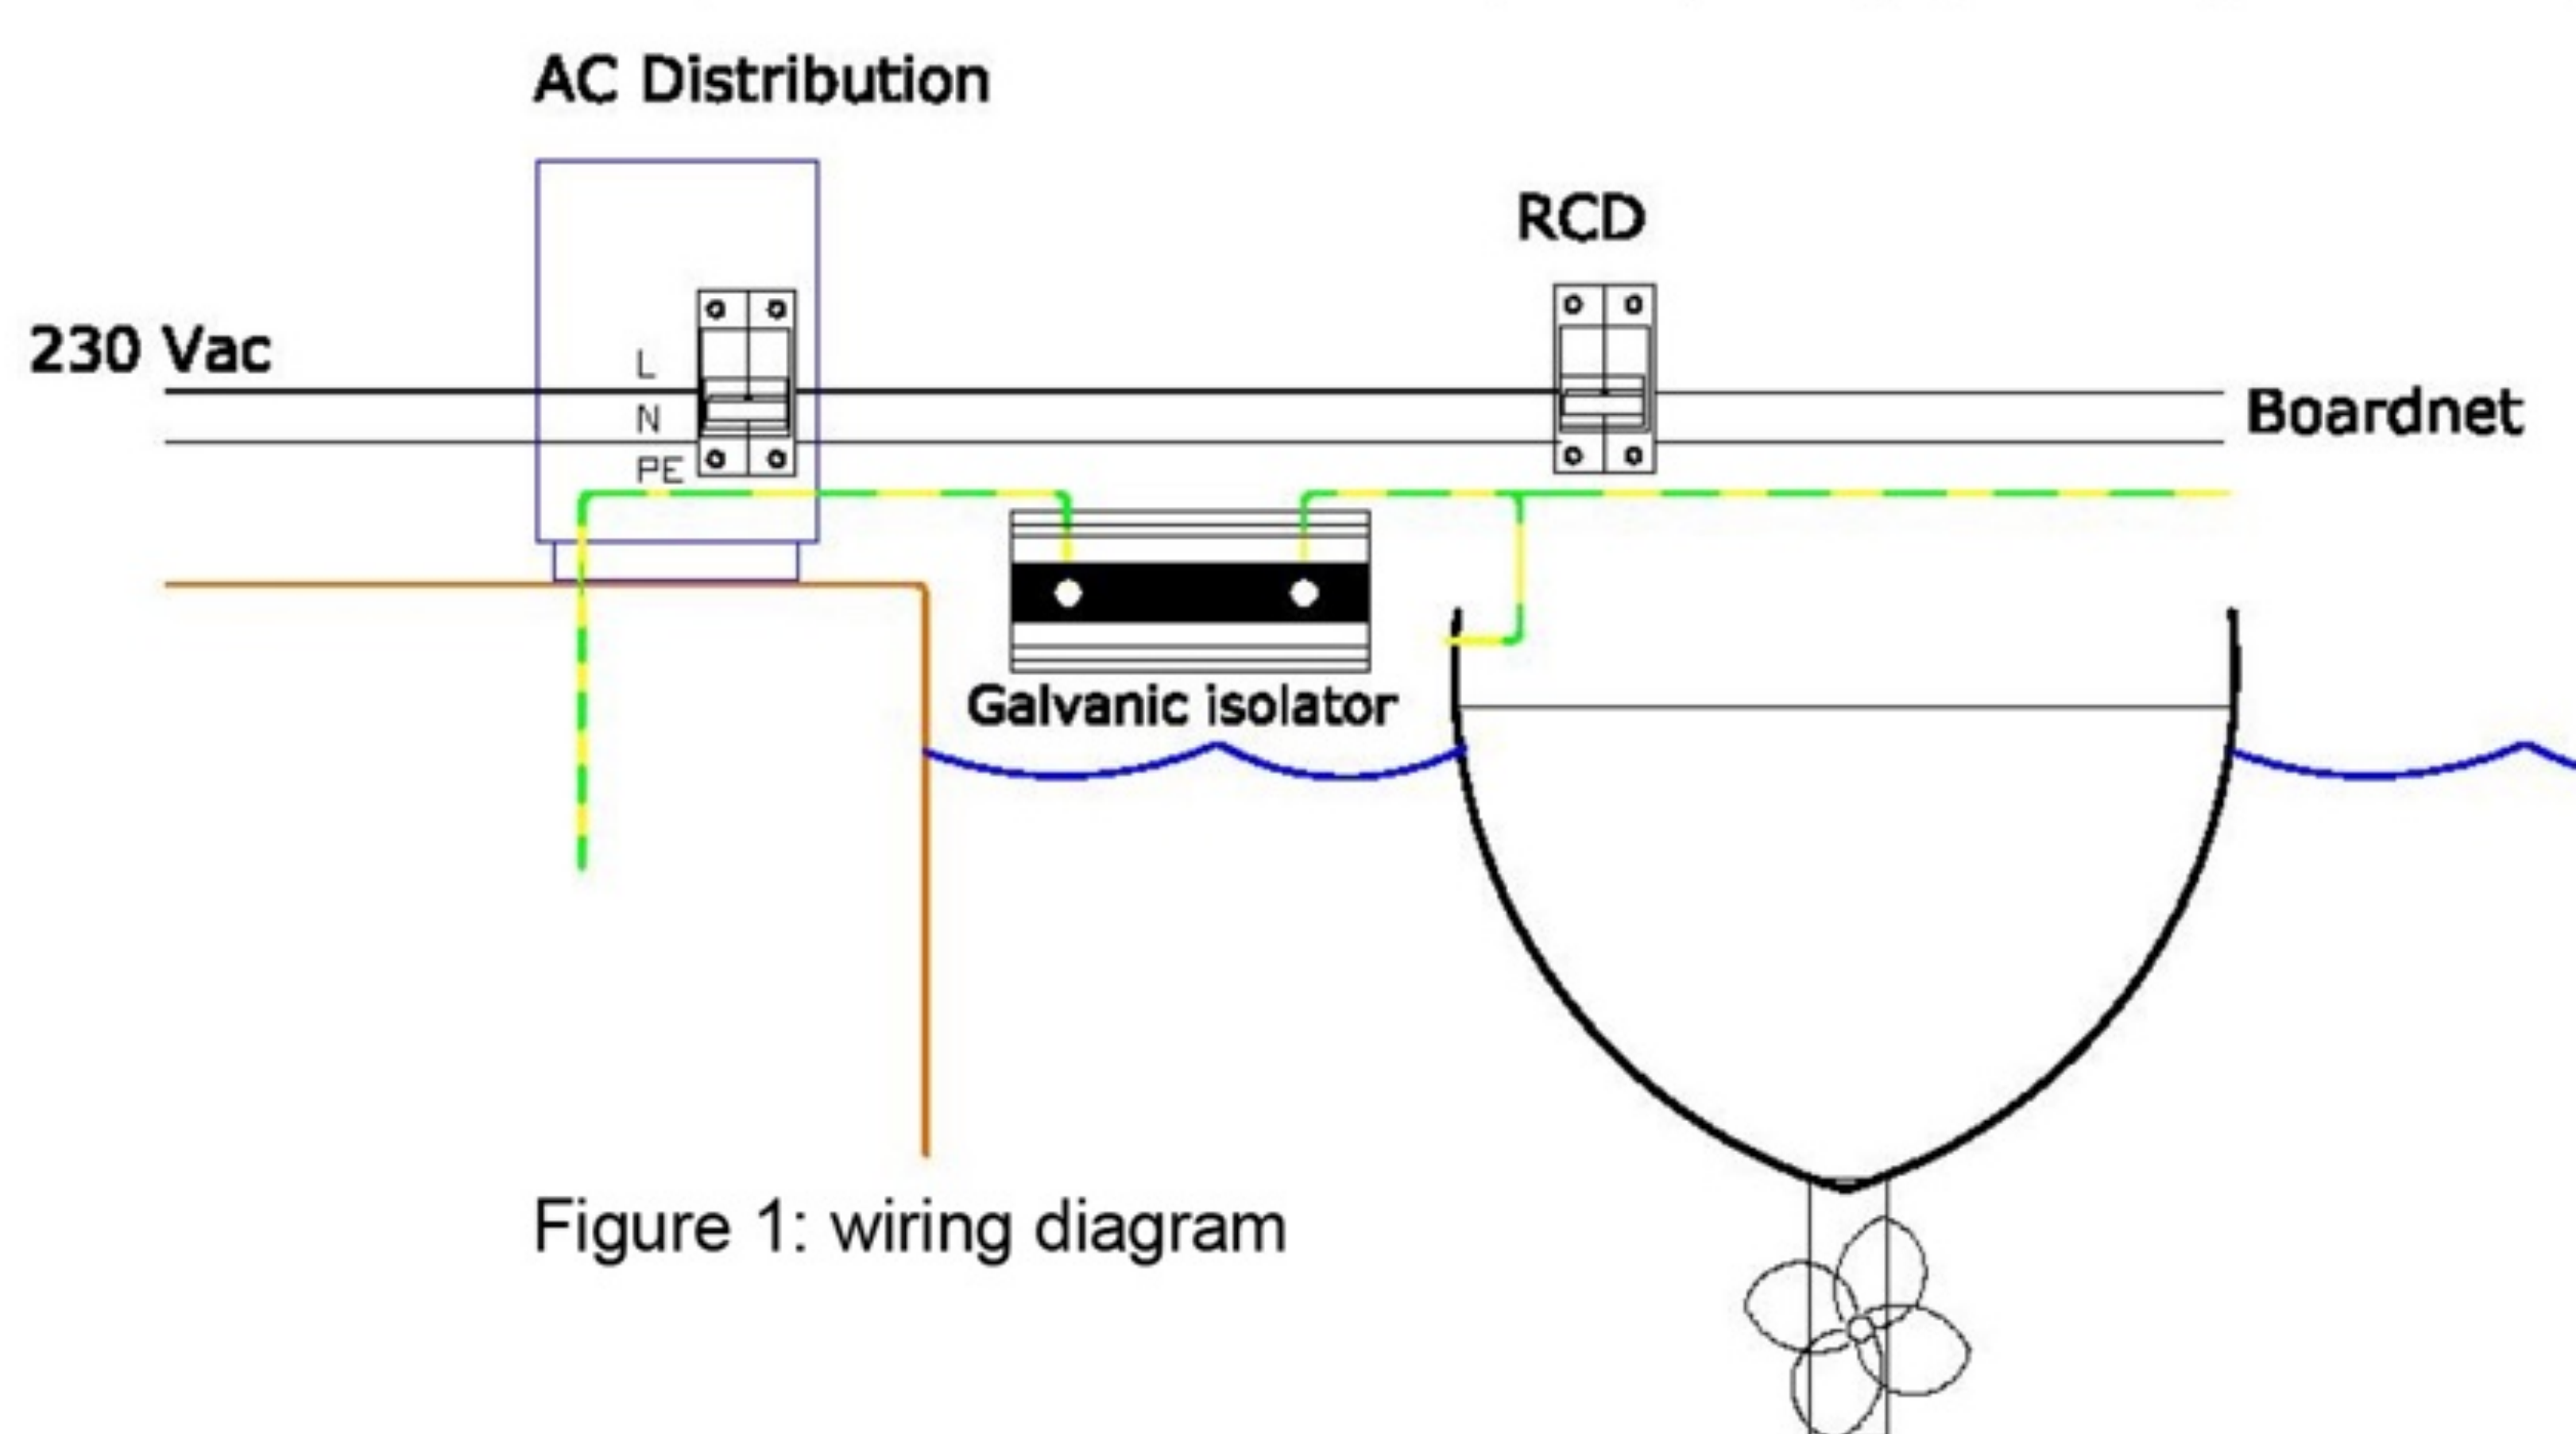

Figure 1: wiring diagram
- 2.3. Wire the galvanic Isolator into the green (safety) grounding conducting connection as shown in fig. 1.
- 2.3. Verbind de galvanische isolator met de groene (veiligheids-) aarddraad, zoals aangegeven in afb. 1.